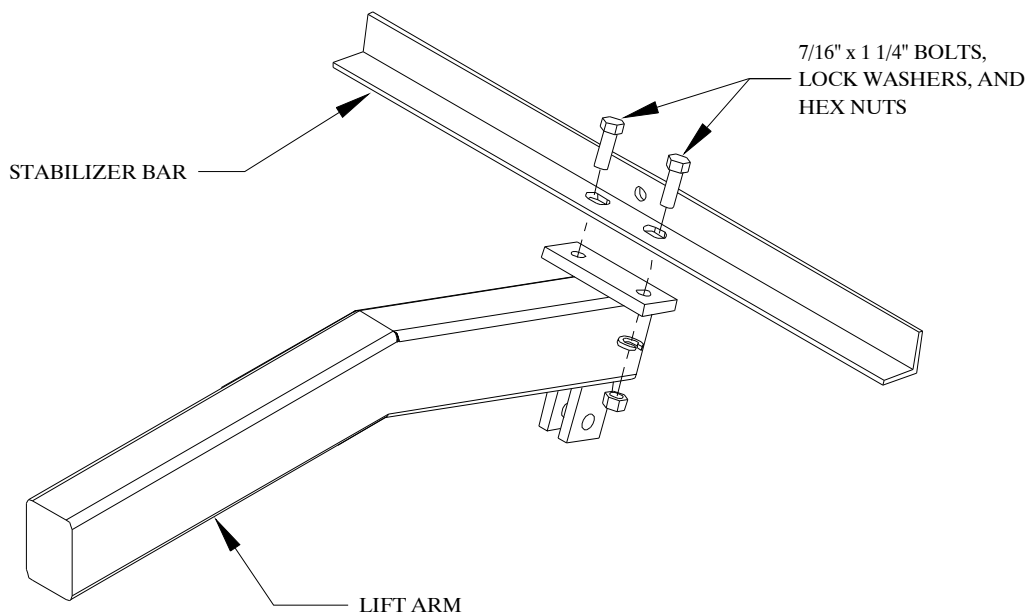

Figure 14
7. Refer to the layout diagrams in appendix C for the locations of the different lengths of stabilizer angles. Bolt the stabilizer angles to the bolt plates near the rear end of the lift arms. Refer to Figure 14. Use 7/16" x 1 ¼" bolts, lock washers, and hex nuts.